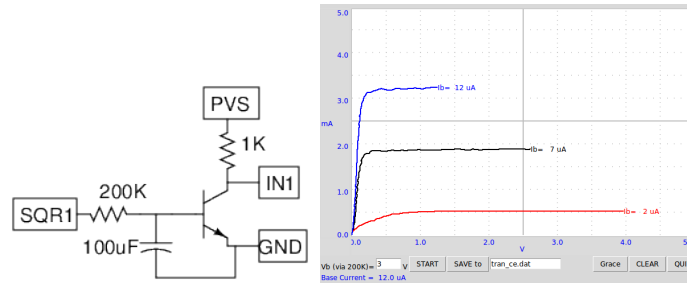

Figure 4.4: Transistor common emitter characteristics
**Observation** The characteristic curves for different base currents are shown in figure 4.4. The collector current is obtained from the voltage difference across the 1k resistor.